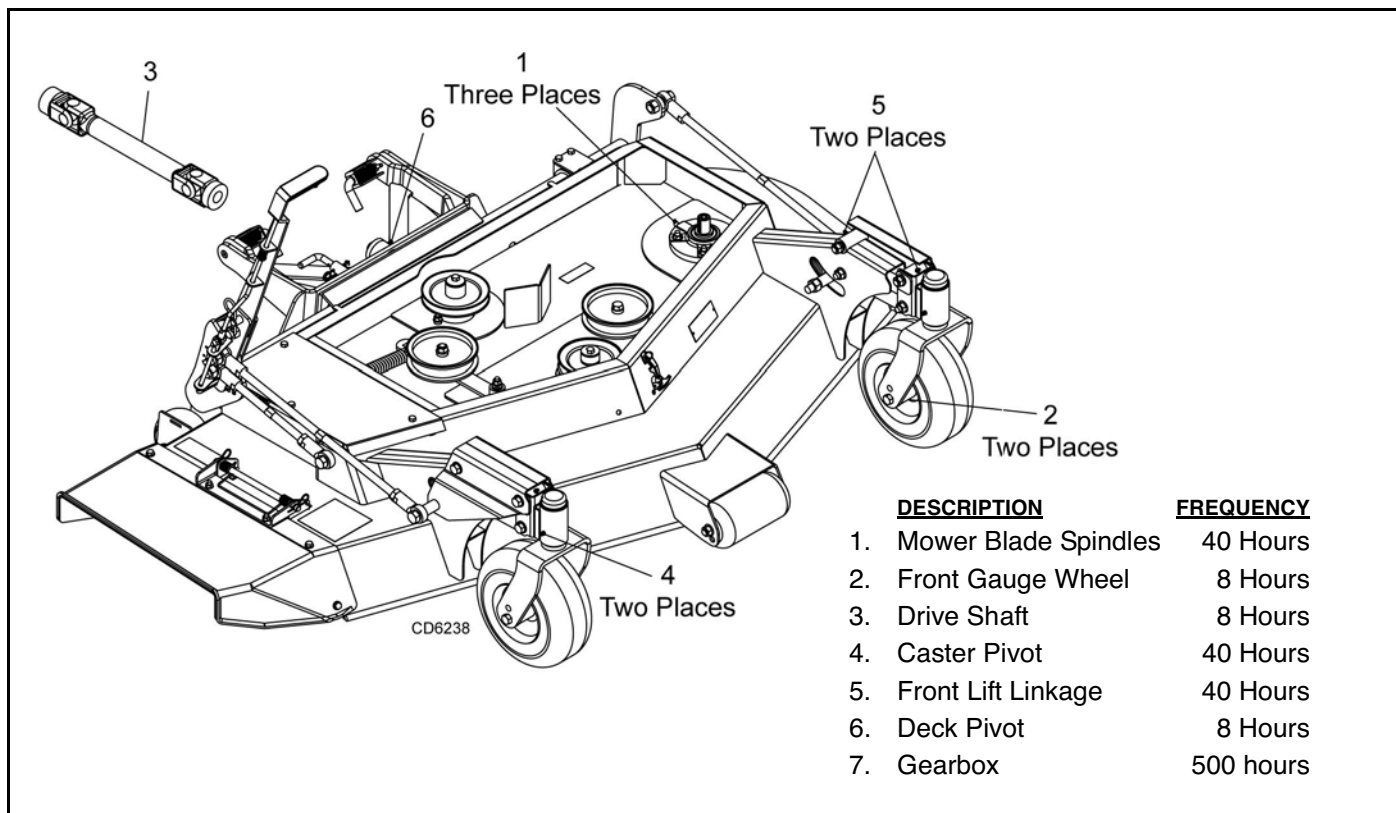

Figure 7. Lubrication Points
2. See Figure 7 for lubrication points and frequency of lubrication based on normal operating conditions. Severe or unusual conditions may require more frequent lubrication.